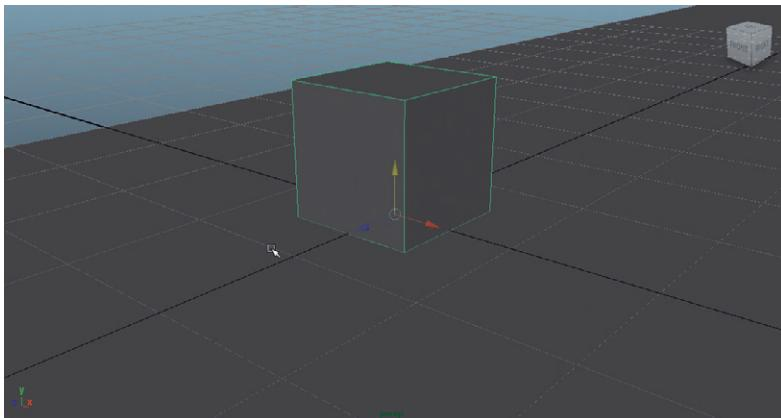

FIG 3.12 Using Snap to Grid to move the cube up to sit on the floor.
Step 17: Snap the wall to the floor's level using the Move Tool by holding the x key down (snap to grid) and grabbing the manipulator's Y-axis handle (the green one which will highlight to yellow once grabbed) and drag up. The cube will snap to be sitting right on the floor (Fig. 3.12).